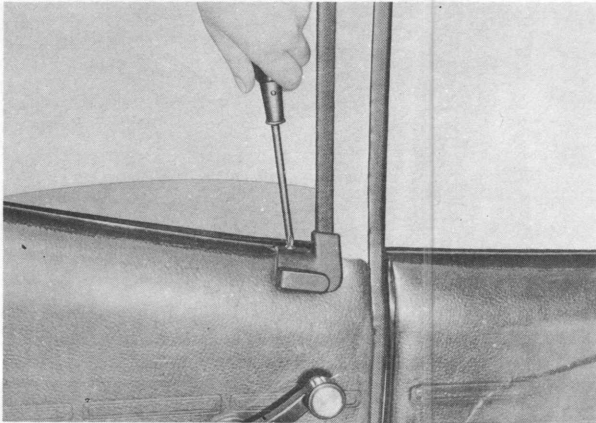

Fig. 14-60 Removing glass stopper
3. Remove the glass stopper as shown in Fig. 14-60.